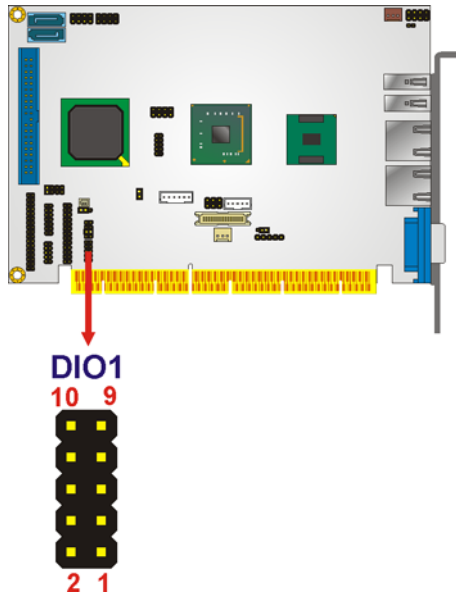

Figure 4-9: Digital I/O Connector Locations
- CN Location:** See **Figure 4-9**